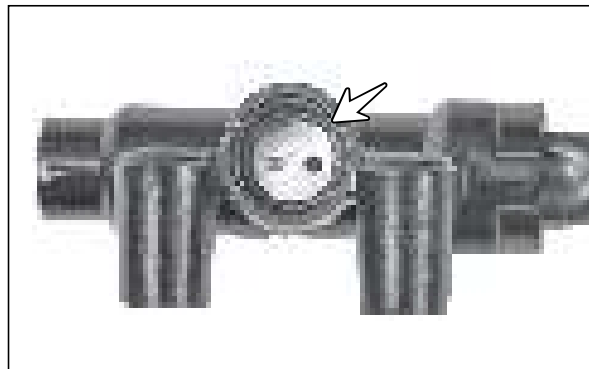

Fig. 6.133
- Take out the 'O' ring from the master cylinder assembly. (Fig. 6.133)